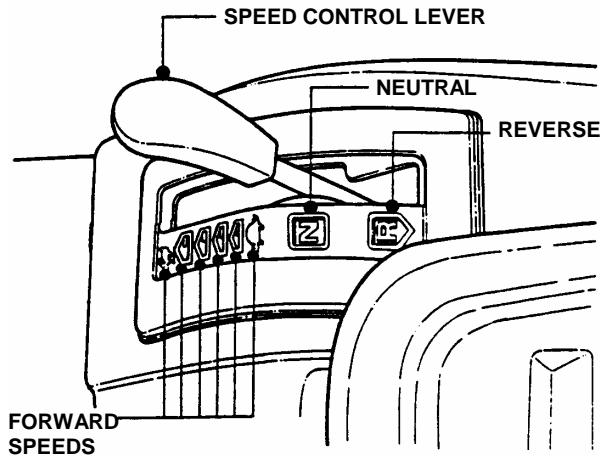

FIGURE 4.16
- Move the speed control lever until it is in direct relation to the neutral "N" position on quadrant. See Figure 4.16.